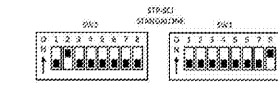

Figure 2
- Set configuration switches SW1 and SW2 in the STP-SCI Smart Controller according to Figure 2.